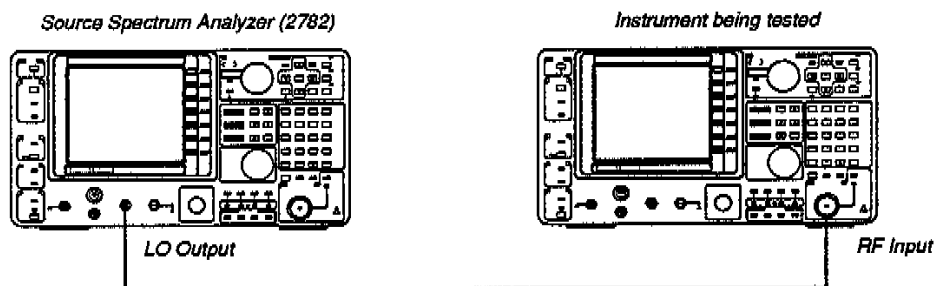

Figure 4-11. Test Equipment Setup for Steps 46-55 of Phase Noise Check.
10. Disconnect the cable from the REF SIGNAL OUT and RF INPUT connectors. Then, connect a 50 Ω cable from LO OUTPUT of the test spectrum analyzer to the instrument RF INPUT connector (as shown in Figure 4-11).